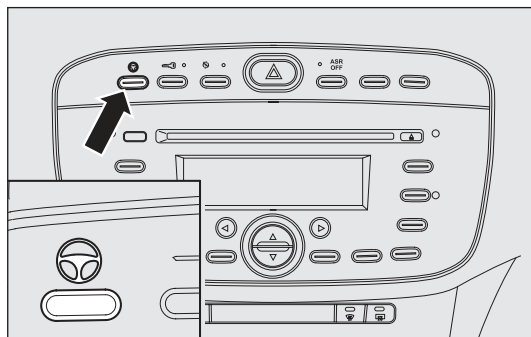

fig. 109
- ☐ the word CITY lit up on the button after it has been pressed fig. 109.